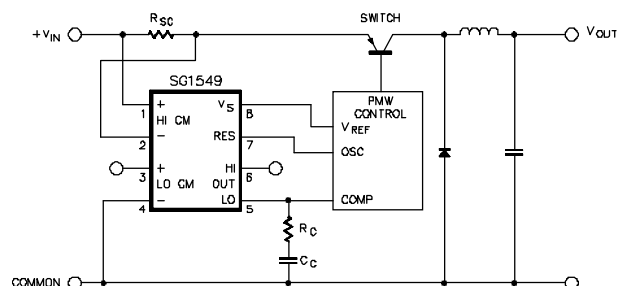

FIGURE 1 — HIGH LINE SENSING WITH THE SG1549 IN CONJUNCTION WITH AN SG1524 PWM CONTROL IC
**HIGH LINE SENSING** - The SG1549 will provide current sensing in the positive supply line in the typical SG1524 single-ended switching regulator application shown in Figure 1. The HI CM sense circuitry can be used with input voltages between 2 and 40 volts.